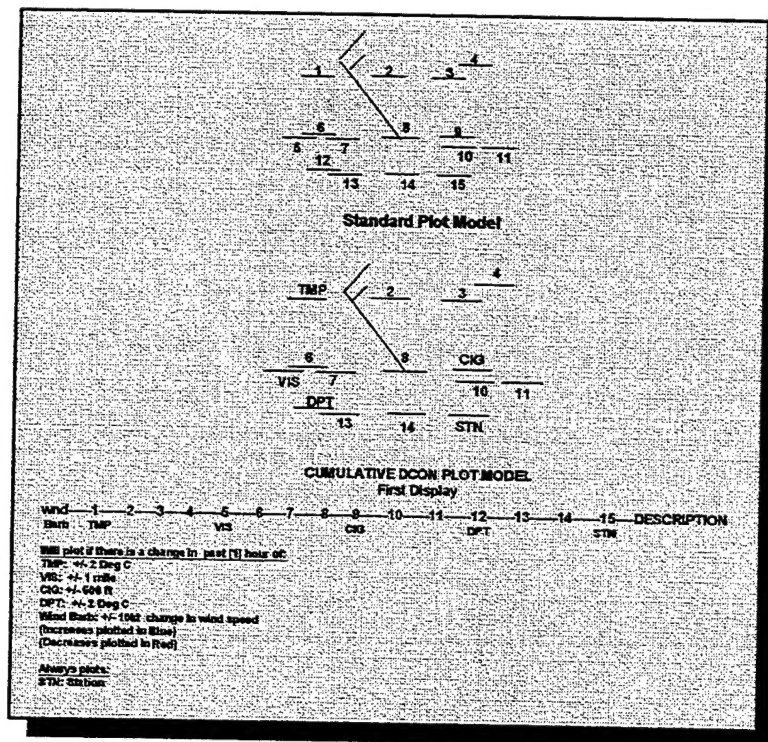

Figure 3. Delta Con Plot Model for Display 1 (Cumulative)
In order to show changes in individual parameters without showing the entire plot, thus eliminating potential cluttering and allowing for quick reference, you must develop a separate plot model for each parameter change that you wish to isolate and identify. Seven specialized plot models are used in Δ-Con. Figures 3 and 4 show parameter placement within the plot models. Follow the steps in Table 1 for creating your plot models. When you're done, your final plot table should resemble Figure 5.
- Click *STN* and assign it to position #15 within the plot model (see **Figures 3 and 4**).